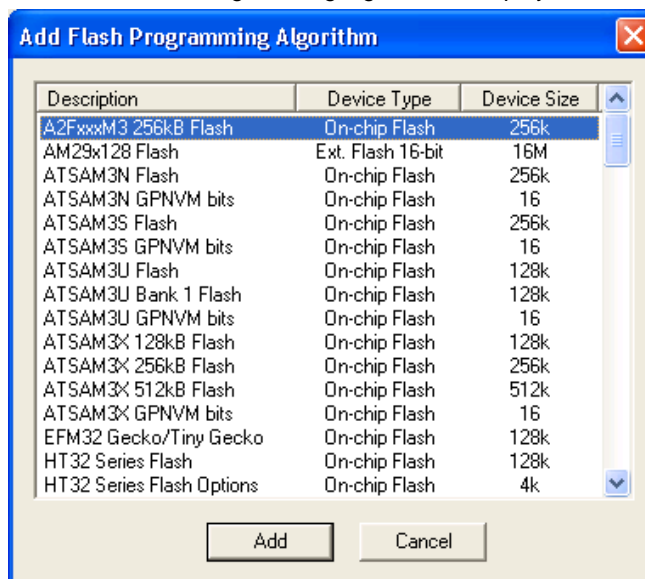

Figure 36 · Add Flash Programming Algorithm
13. Click **Add**. The Add Flash Programming algorithm is displayed as shown in Figure 36 · .